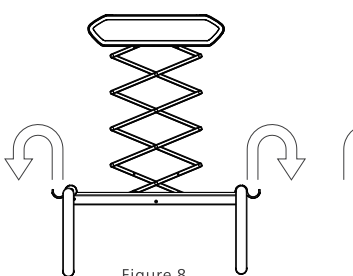

Figure 8
3. As shown in Figure 8, take bed sheet rod down when you need to dry bed sheet.